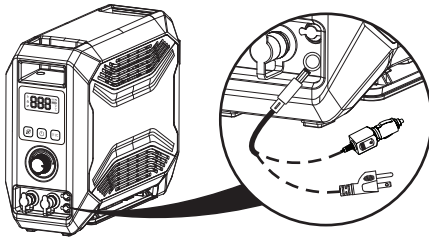

Fig. 1
2. (Fig. 1) Remove the rubber flap covering the charging port.